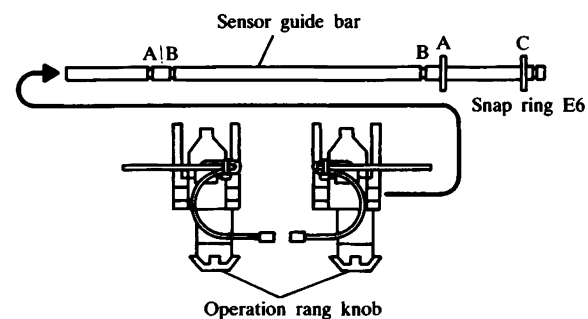

Fig. 45-1
- (1) Put the right side operation range knob at first, then put the left side operation range knob on the sensor guide bar, and snap the snap rings E6 on the grooves A and C on the shaft. (Refer to Fig. 45-1)